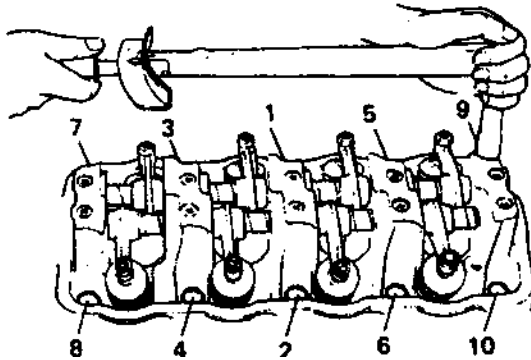

Fig. 1.4-3
(1) When checking cylinder head bolt, valve cover must be dismounted. The tightening torque of cylinder cover bolt is 55-60 N • m (5.5-6.0kg • m).
(2) When fastening cylinder head, cylinder gasket should be under the even stress. The sequence of screwing bolts is shown in Fig. 1.4-3.